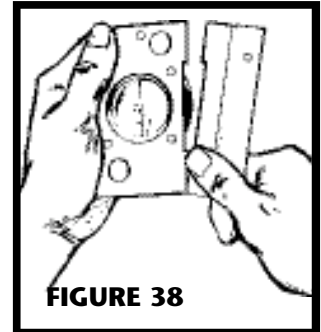

FIGURE 38
2. Refer to Figure 38. Break off nail plate at scored line.